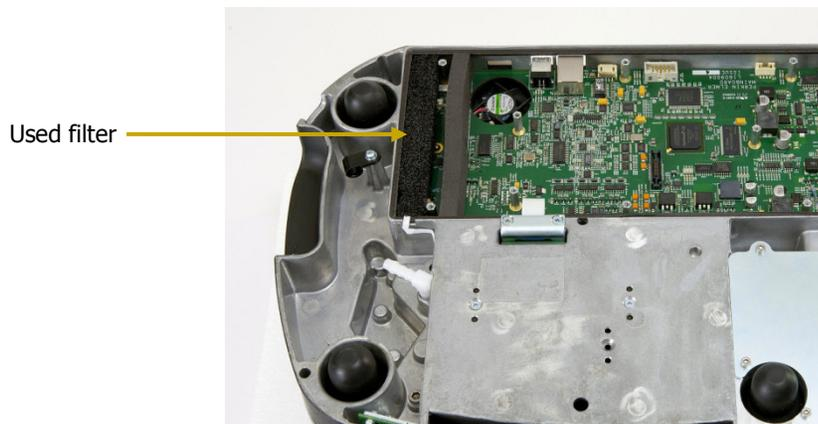

Figure 93 Location of the filter
- Locate the used filter (Figure 93).